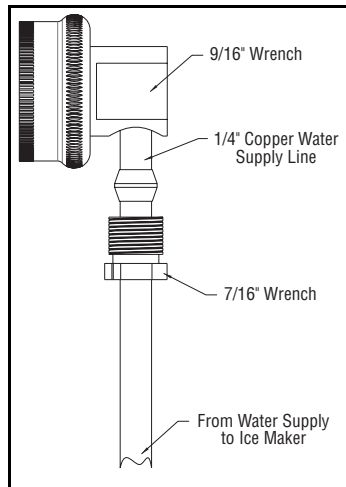

Figure 10
2. Locate the supplied garden hose fitting. Ensure the end of the copper tubing has been cut straight and is free of burrs. Slide the compression nut and ferrule onto the copper tubing as shown (**Figure 10**). Push the assembly completely into the garden hose fitting and tighten using the two wrenches. Wait to connect this assembly to the appliance until the drain connection is ready.